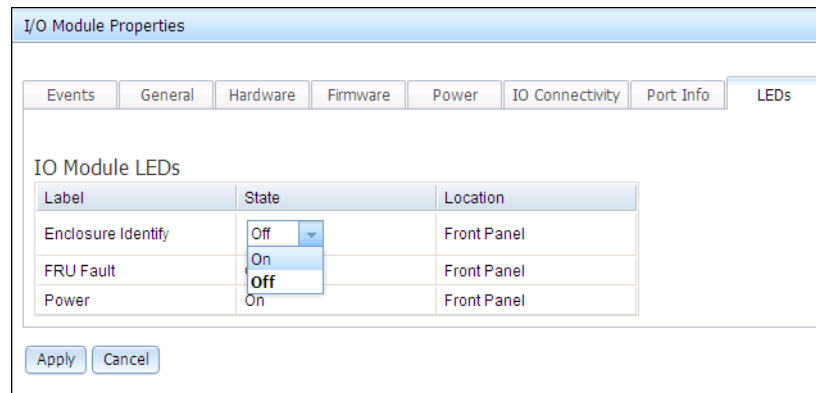

Figure 8-4 Toggle the Identify LED state
- iii. Click the **LEDs** tab to display the window that is shown in Figure 8-4.